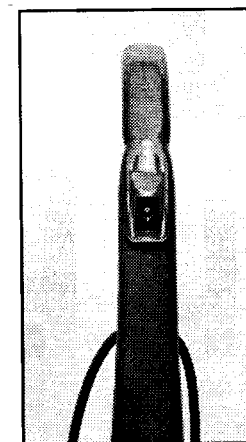

Fig. 5
1. To start the vacuum cleaner, flip the ON/OFF switch (located on the grip on Models 4512 and 4812 or on the side of dust compartment on Models 4508, 4810, 4900, and 4950) to the ON position as indicated by "I" on the switch [Figs. 5 and 6].